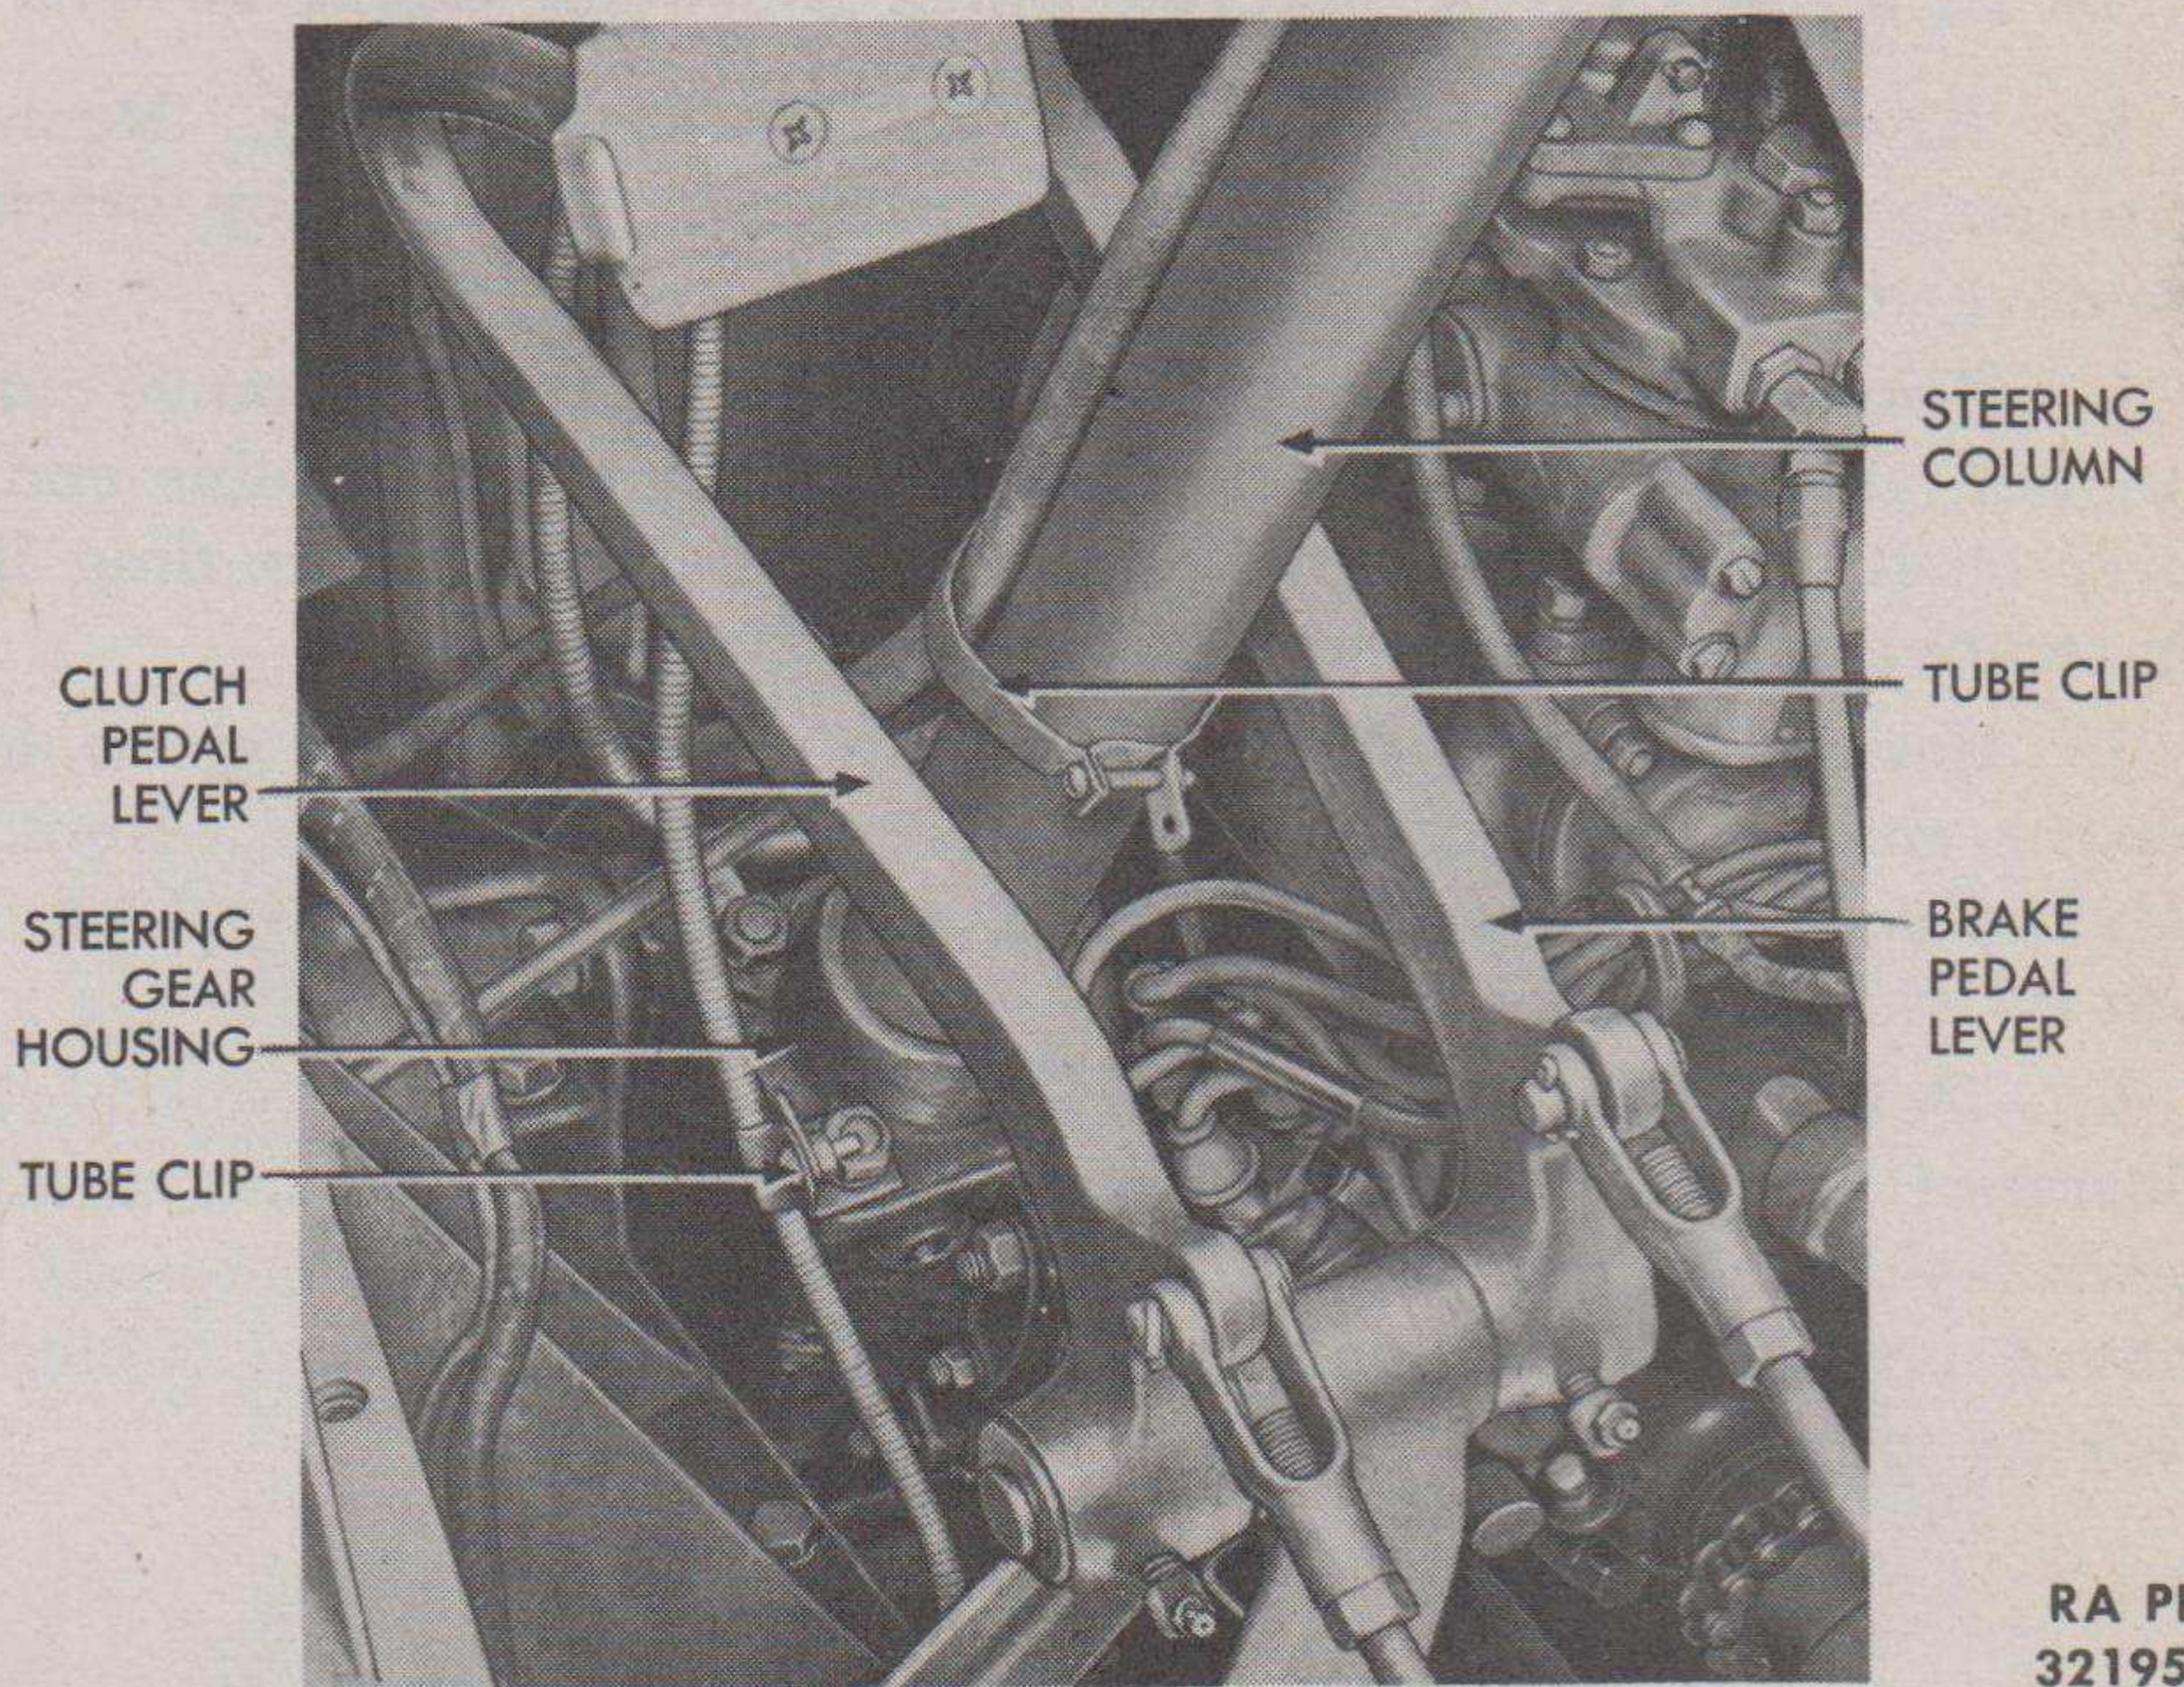

Figure 62 — Lower Part of Steering Column
e. **Disconnect Tubes and Cables.** Remove two cap screws, lock washers, and nuts from hand control valve bracket (fig. 61). Lift off bracket. Remove tube clip bolt and nut from steering column. Push hand control valve and air tubes away from steering column. Remove housing side cover cap screw which secures tube clip to steering gear housing (fig. 62). Pull tube away from steering gear housing, and install cap screw back in housing. Remove nut and lock washer from steering gear housing stud which secures speedometer cable clip to lower end of steering column. Pull off speedometer cable, and install nut and lock washer. Remove cable located behind compressor pulley.
f. **Disconnect Clutch and Brake Pedal Levers** (fig. 62). Remove cotter pins and clevis pins from clutch control rod clevis and brake control rod clevis. Pull back clutch and brake pedal levers.
f. **Connect Tubes and Cables** (fig. 62). Install cap screw, lock washer, and nut attaching tachometer cable clip to its bracket located behind compressor pulley. Install speedometer cable clip on rear left-hand stud of steering gear housing. Attach nut and lock washer. Position tube clip on steering gear housing and install cap screw, lock washer, and nut. Install tube clip which secures air tubes to steering column between foot pedals. Install hand control valve bracket cap screws, lock washers, and nuts which secure hand control valve to steering column.
g. **Connect Clutch and Brake Pedal Levers** (fig. 62). Position clutch and brake pedal levers so that clevis pins can be inserted through clutch and brake control rod clevises and levers. Install cotter pins.